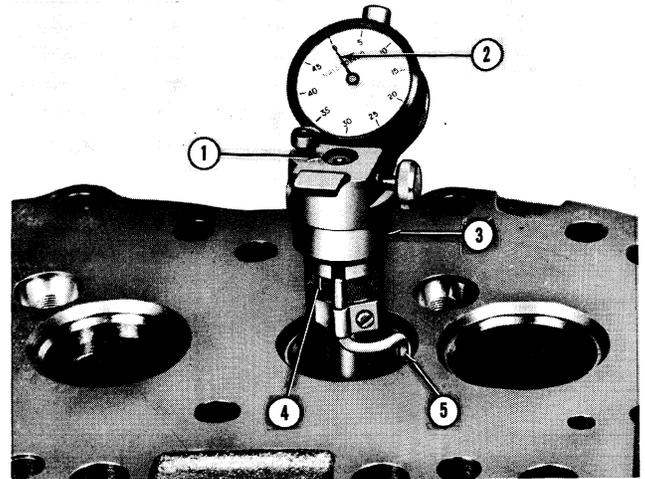

Figure 10
7. Measure the concentricity of the valve seat with a suitable gauge, Figure 10, or with Prussian Blue. If the seat runout exceeds 0.002 in. (0.0508 mm), reface the seat.